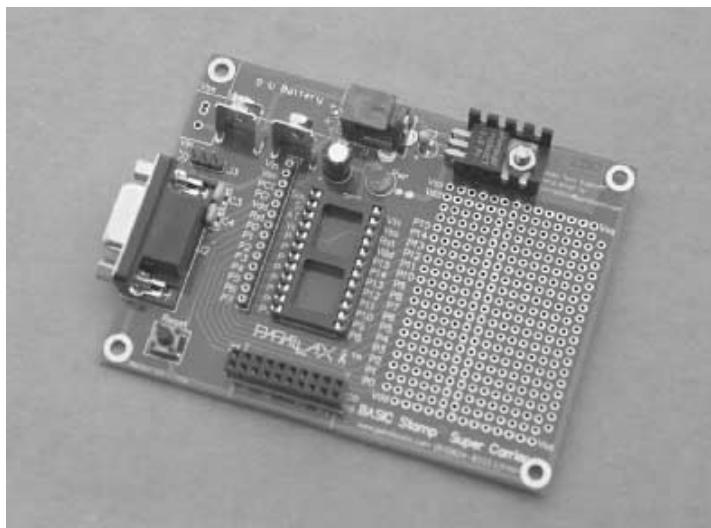

FIGURE 31.3 The Basic Stamp carrier board, ideal for experimenting with the BSII. Sockets are provided for both the BSI and BSII.
- **BSII Starter Kit.** The starter kit is ideal for those just, well, starting out. It includes a BSII module, a carrier board, a programming cable, a power adapter, and software on CD-ROM. The carrier board, shown in Fig. 31.3, has a 24-pin socket for the BSII module, a connector for the programming cable, a power adapter jack, and a prototype area for designing your own interface circuitry.